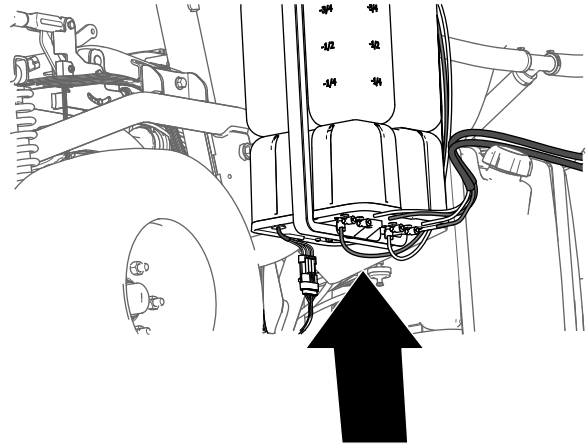
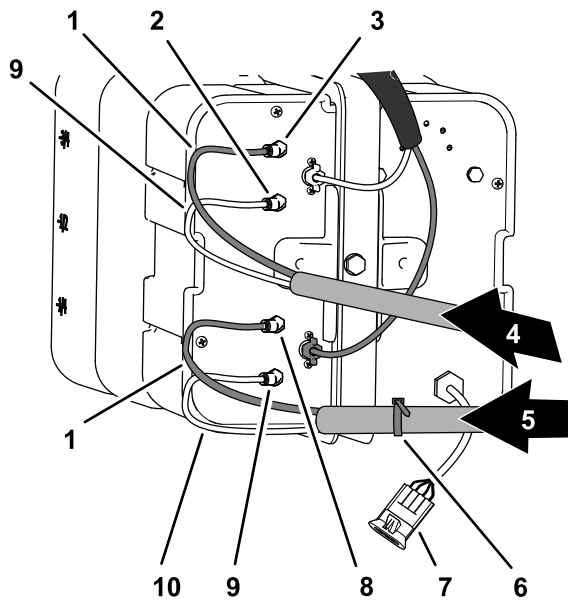

Figure 21
Figure 22
1. At the connection panel of the compressor for the foam-marker kit, secure a cable tie around the clear and blue tubing for the right-spray section (Figure 21 and Figure 22).